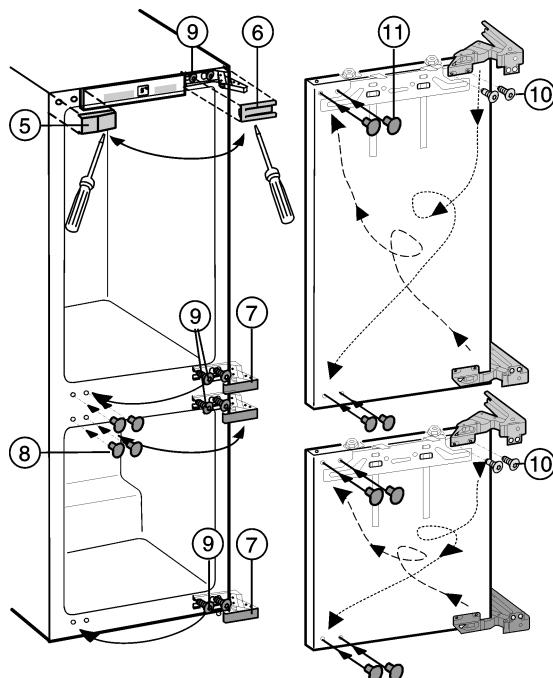

Fig. 2
- ▶ Lift off covers Fig. 2 (5,6,7,8) using a slot screwdriver.
- ▶ Just loosen top and bottom screws Fig. 2 (9) on the body of the appliance.
- ▶ Swap screws Fig. 2 (9) to the opposite side and screw them in a little.
- ▶ Undo screws Fig. 2 (10) and change over the hinges diagonally.
The screws Fig. 2 (10) are self-tapping: use a cordless screwdriver.
- ▶ Close off the now unused fastening holes with the plugs Fig. 2 (11) supplied.
- ▶ Hang doors on the pre-fitted screws Fig. 2 (9) and tighten screws.
- Re-attach all covers *Fig. 2 (5,6,7,8)*.